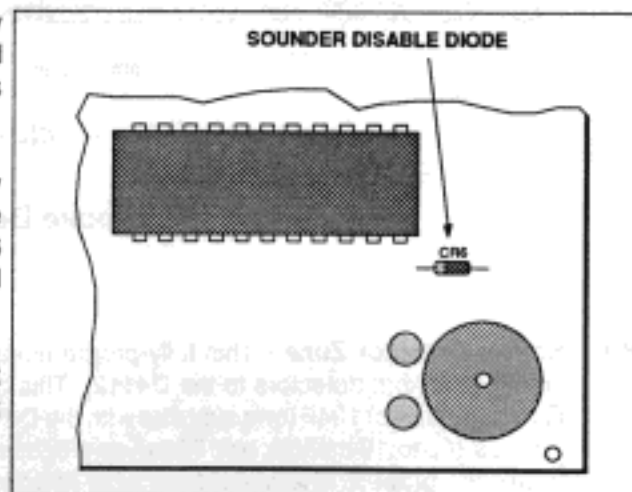

Figure 6: SOUNDER DISABLE CR6 DIODE
- 7.6 **Command Center Sounder Disable** - To permanently disable the sounder, remove all power from the Command Center then cut the leads on diode CR6 (located in the lower right corner of the Command Center, see Figure 6). Remove the diode.